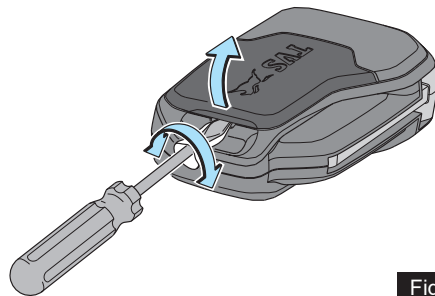

Fig. 12
- Using a suitable connector, remove the cover key fob gently as shown in the figure (ref. Fig. 12).